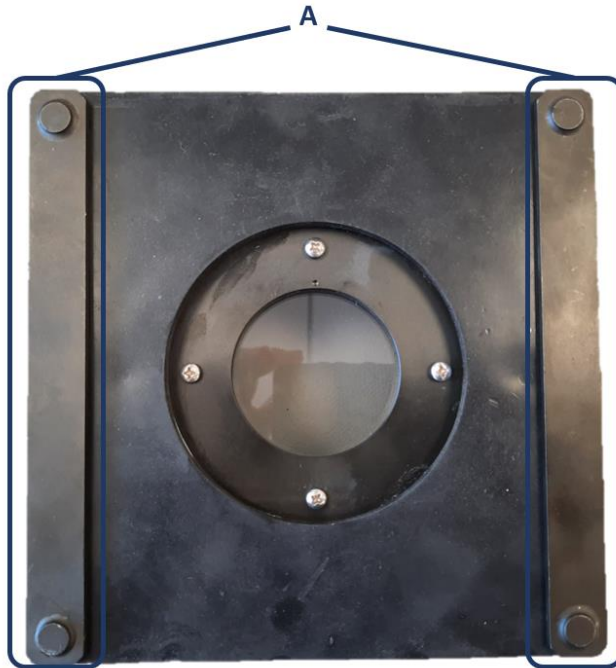

Figure 9: Duct Mount – rear view
- 2) Remove the detector plates, Figure 9, item A.